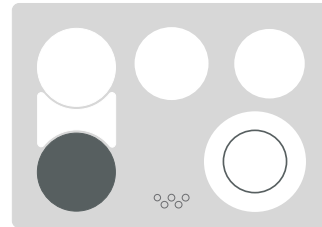
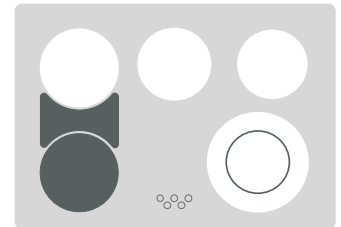
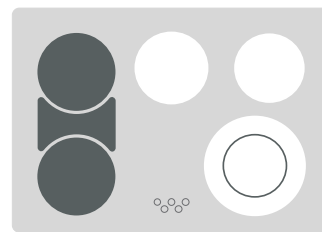

Figure 2
Figure 4
Figure 5
2. At the Warmer Zone controls position touch  once to turn ON the power level for **HI** (see Figure 2) or  to turn ON the power level for **LO** (see Figure 5). The Warmer Zone Indicator light located above the ON/OFF pad will turn on steady and the **Hot Surface** indicator light located on the cooktop will turn ON when the Warmer Zone becomes hot.
3. Each touch  or  will increase or decrease the power levels. The Warmer Zone has 5 power levels from **HI** (see Figure 2) through **MED** (see Figure 4) to **LO** (see Figure 5). The power level may be adjusted at any time while the Warmer Zone is ON.